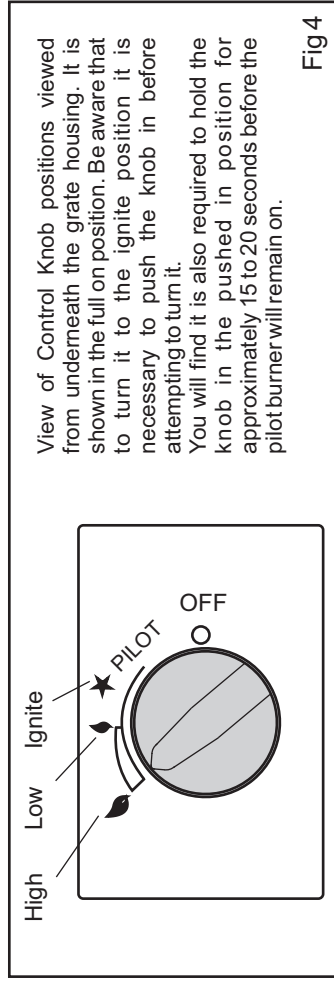

Fig 4
- The appliance is fitted with a Piezo Ignitor built into the control valve which automatically ignites the gas grate when the control valve knob is turned to the ignite position and does not require the use of a lighter or matches to light it. (see Figs.4 & 5)
- When the control knob is turned fully anticlockwise, the gas grate is at its highest heat setting. (see Fig 4)
anticlockwise to the ignite position whilst holding the knob pushed in. This should ignite the pilot burner. (see Figs. 4 & 5)
- To turn off the appliance simply push in and turn the Control knob in a clockwise direction to the off position whilst holding the knob pushed in (see Fig. 4)